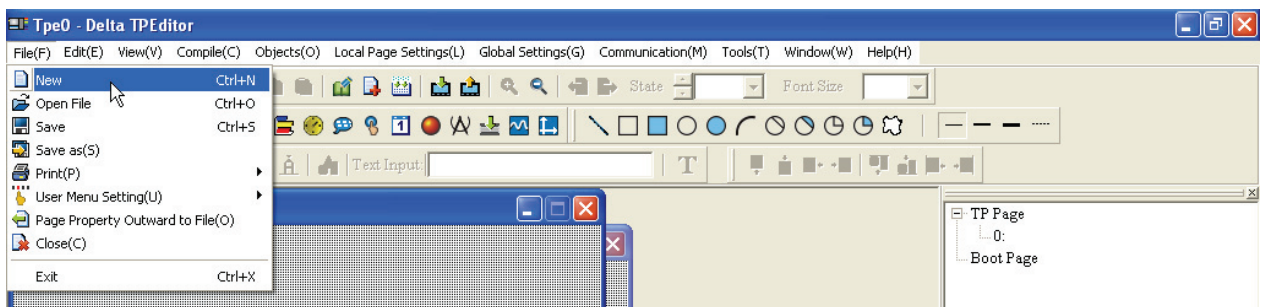

Figure 1-28
Step 1. Click **File (F) > New** to create a new project (Figure 1-28).